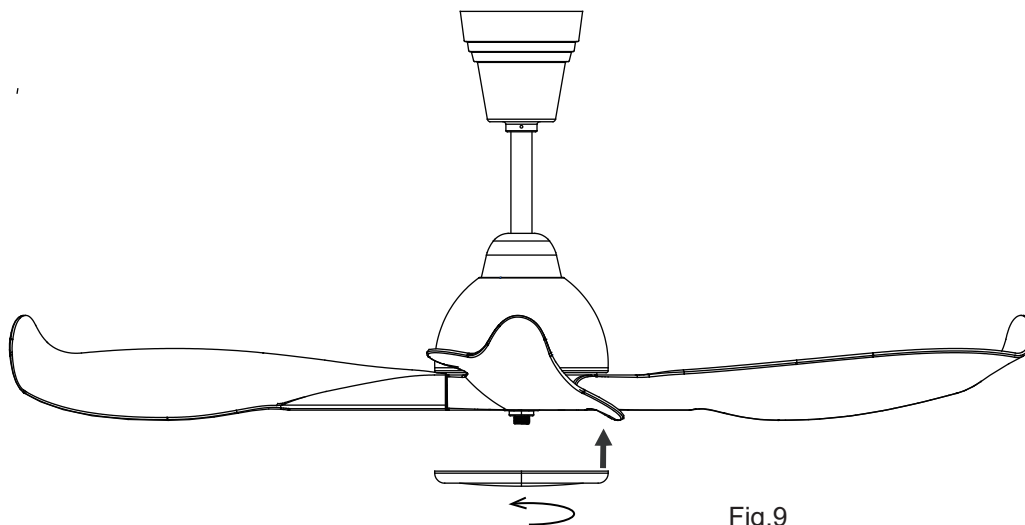

Fig.9
1. Install the bottom cover to the shaft by rotating it clockwise Fig.9